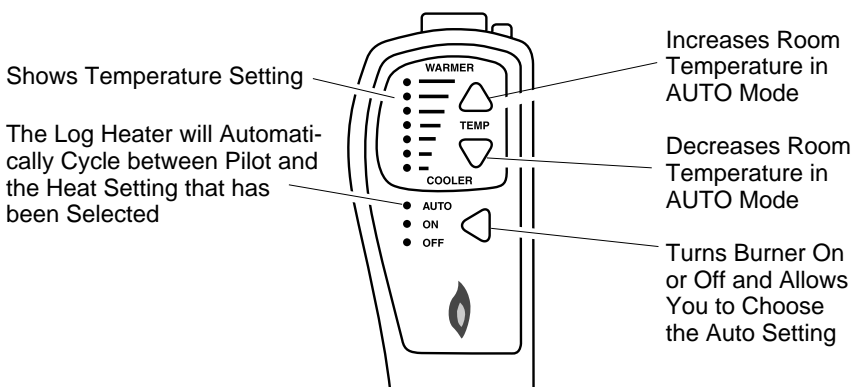

Figure 36 - Thermostat Hand-Held Remote Control Unit Selections (CGHRCTA Series Only)
- 2b. Press the AUTO/ON/OFF button on the hand-held remote control (see Figure 36). The lights to the left of the button will show AUTO, ON, or OFF.